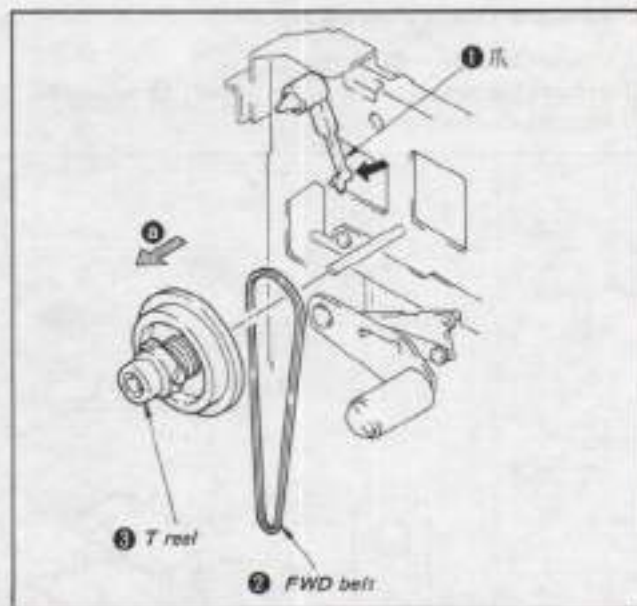

Fig. 3-10.
3. Removal of the T reel (See Fig. 3-10)